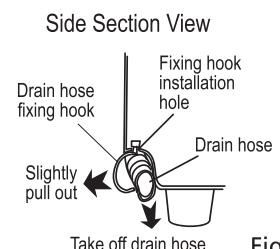

Figure 2
1. Remove the drain hose from the hanging hole on the cabinet. Pull the drain hose fixing hook outwards gently to take out the drain hose from the two fixing hooks.(See Figure 2.)